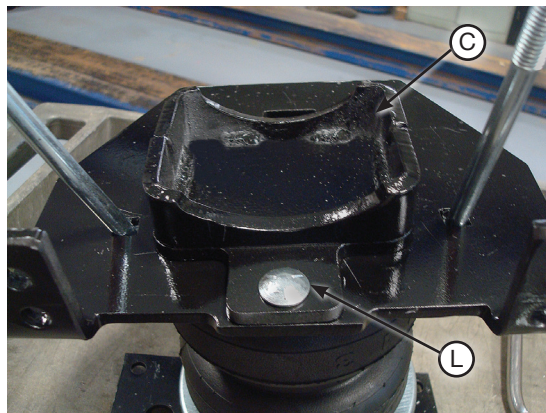

fig. D.12
6. Install the lower bracket cup (C) onto the lower bracket main plate using the 5/16"-18 x 3/4" carriage bolt (L) (Fig. D.12). Cap with M8 flat washer (O) and 5/16"-18 nylon lock nut (Q) (Fig. D.13). Snug bolt down but leave loose enough for bracket to move freely in slot.